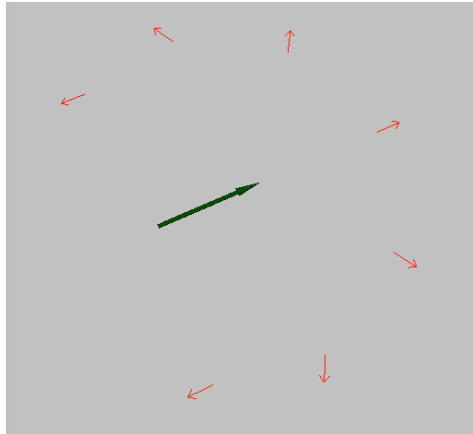

Figure 1: The robot in green and the final pose of each trajectory in red
2. Vizualizes the final pose of each trajectory as the car moves around in the world, such as in Fig. 1 below. This will require subscribing to the pose of the robot.